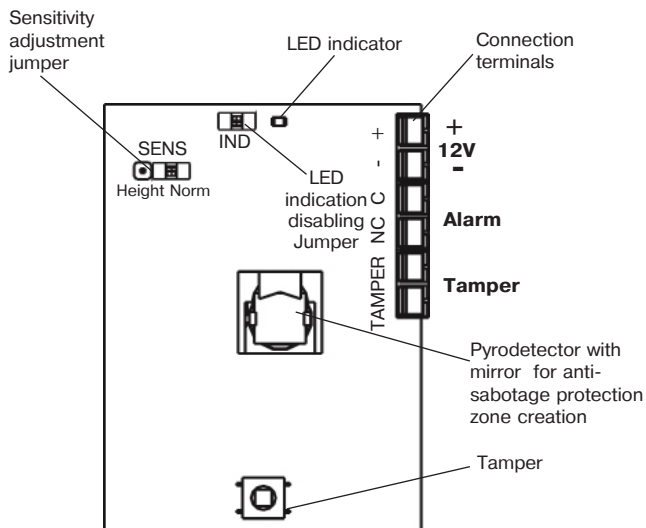

Figure 5 – Printed Circuit Board
- Install the jumpers as shown in Figure 5 in accordance with application conditions.
For the LED indication disabling remove the jumper IND. The jumper location is shown in Fig.5.